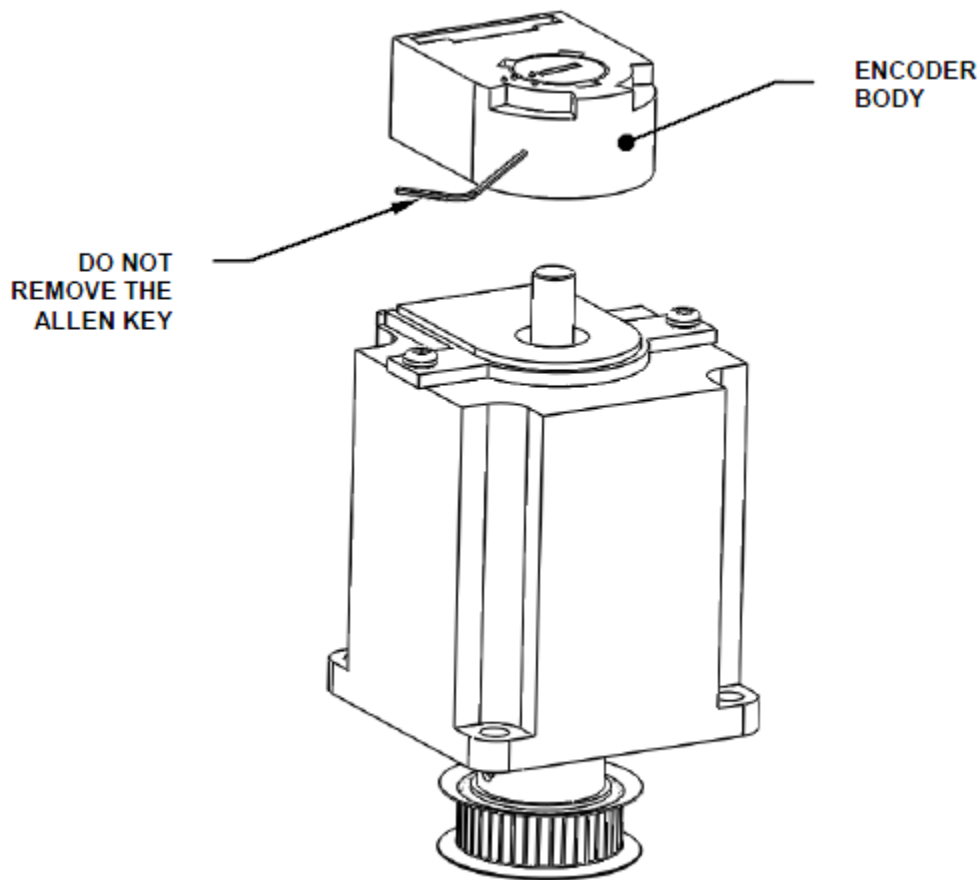

Figure S-6: Installing the Encoder
3. Install the main part of the Encoder onto the Mounting Plate by snapping it in place as shown in Figure S-6. Do not remove the Allen key in the encoder.